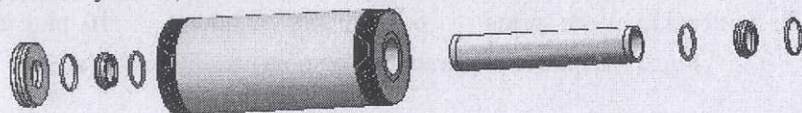

Fig. 4 - Exploded Diagram of Components of HP Cylinder
- 7) Check if the seals inside both ends of the HP cylinder are damaged, and if the end faces of the copper ring are unsmooth or with obvious impression (refer to Fig. 4 - Exploded Diagram of Components of HP Cylinder). The seal ring consists of 3 parts: HP seal ring, O-ring and back ring.
- x) The same as Fig 4.